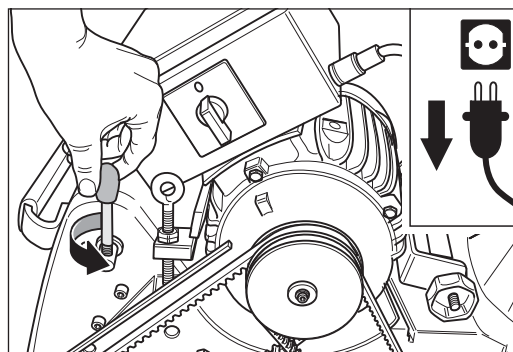

Fig. 68 Unscrew the operating lever of the drive unit.
- 7 Remove the operating lever of the drive unit by unscrewing (Fig. 68).